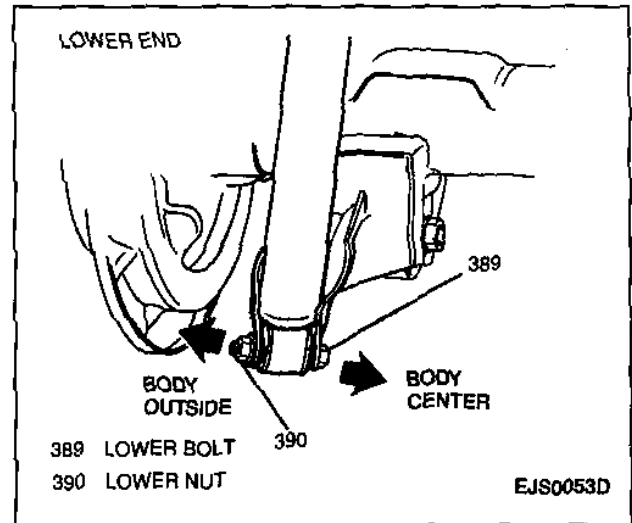

Figure 5—Shock Absorber (Lower End)
1. Shock absorber to vehicle; secure with lower bolt and nut. Bolt head should face body. Do not tighten at this time (Figure 5).
3. Shock absorber lower mounting bolt and nut. Bolt head should face body (Figure 5).